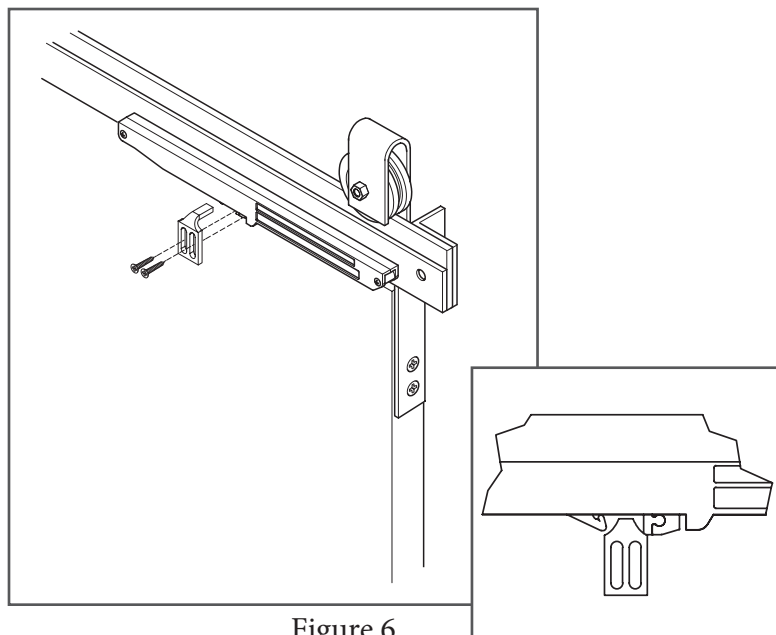

Figure 6
7. Align the stop tab on the top edge of the door to interact with the soft close mechanism (Figure 6).
8. Install the tab(D) on the door using the two phillips head screws(C) (provided) (Figure 6).